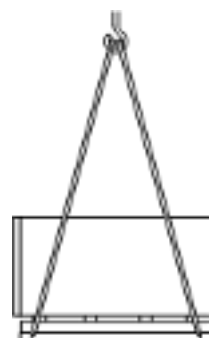

Fig. 31: Transport with a crane
1. ▶ Lash ropes, belts or multiple-point suspension gear to the pallet in accordance with ( Fig. 31 ).